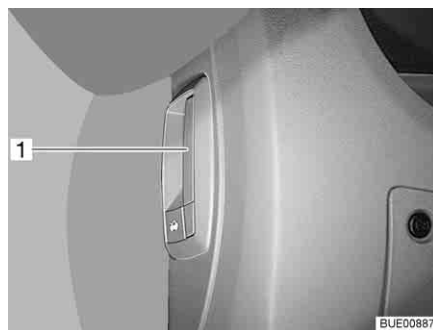

Fig. 29 Release lever for the bonnet (inside the vehicle)
*Opening:* ■ Pull the lever (Fig. 29,1) on the left under the dashboard.